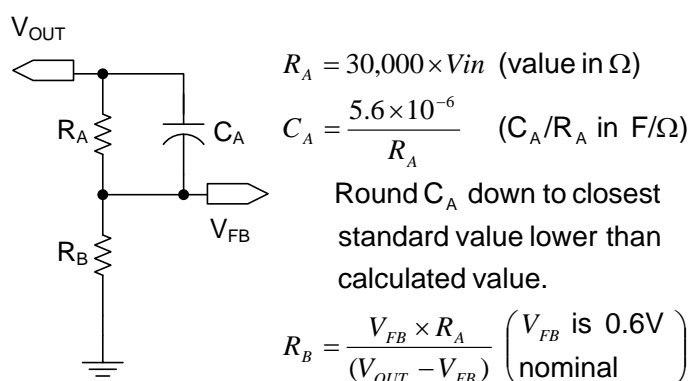

Figure 4: Output voltage resistor divider and phase-
$R_A = 150k\Omega$ ,  $C_A = 33pF$  (see Figure 4)
$R_A = 100k\Omega$ ,  $C_A = 56pF$  (see Figure 4)
The EN5394 uses of a type III compensation network. Most of this network is integrated. However a phase lead capacitor is required in parallel with upper resistor of the external divider network (see Figure 4). This network results in a wide loop bandwidth and excellent load transient performance. It is optimized for approximately 100µF of output filter capacitance at the voltage sensing point. Additional decoupling capacitance may be placed beyond the voltage sensing point outside the control loop. Voltage-mode operation provides high noise immunity at light load. Further, voltage-mode control provides superior impedance matching to ICs processed in sub 90nm technologies.
The EN5394 output voltage is determined by the voltage presented at the VFB pin. This voltage is set by way of a resistor divider between  $V_{OUT}$  and AGND with the midpoint going to VFB. A phase lead capacitor  $C_A$  is also required for stabilizing the loop. Figure 4 shows the required components and the equations to calculate their values. Please note the equations below are written to optimize the control loop as a function of input voltage.
**Recommendation 8:** Keep  $R_A$ ,  $C_A$ , and  $R_B$  close to the VFB pin (see Figures 4 and 8). The VFB pin is a high-impedance, sensitive node. Keep the trace to this pin as short as possible. Whenever possible, connect  $R_B$  directly to the AGND pin instead of going through the GND plane.